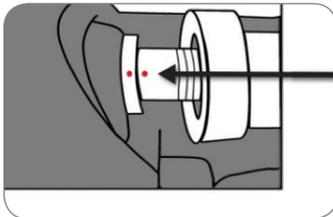

Figure 52: Connect driveline to New Controller (align the two red marks)
- 6) Connect the driveline to the **new** controller (align the two red marks and push together) (Figure 52). If the "VAD Stopped" alarm was active on the new controller, it will now resolve.